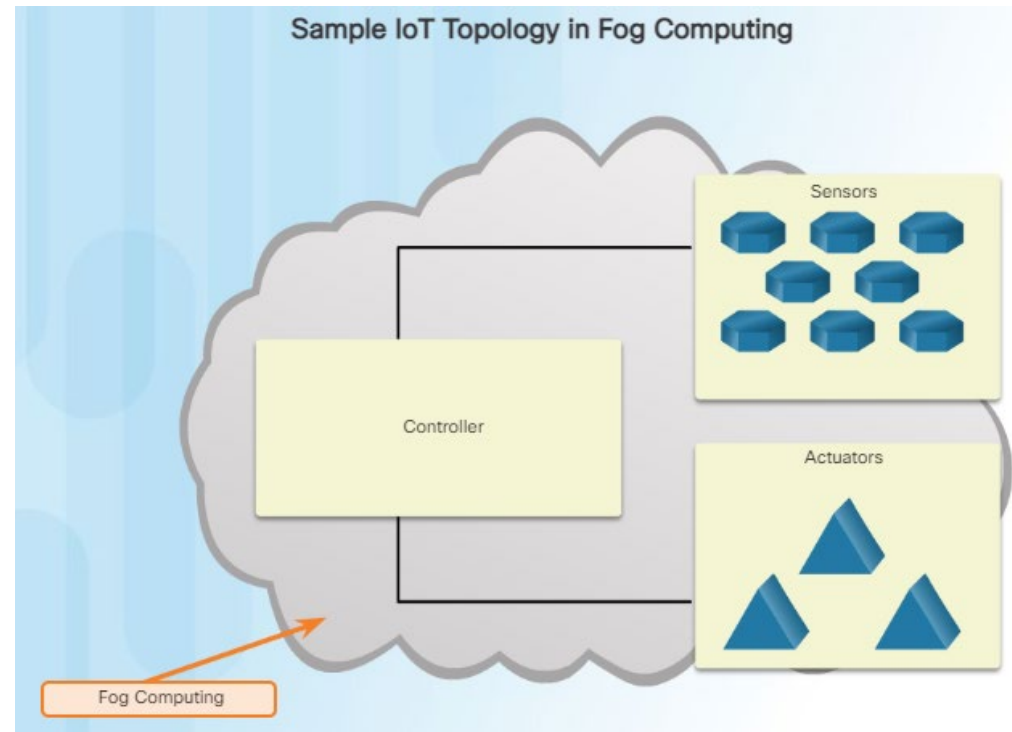

Figure 2
- There are many types of sensors. Figure 2 displays examples of sensors.
- Figure 2 displays a sample IoT topology that highlights how controllers are used in fog computing. Imagine smart traffic lights that contain sensors and actuators. The sensors detect and report traffic activity to the controller. The controller is able to process this data locally and determine optimal traffic patterns. Using this information the controller will send signals to the actuators in the traffic lights to adjust traffic flows. This is an example of machine-to-machine (M2M) communication. In this scenario, the sensors, actuators, and the controller all exist within the fog. That means that the information is not sent beyond the local network of end devices.
- Driving a car is an example of a process. Example inputs include speed, direction, and proximity to other cars. Example actions include accelerating, braking, and steering the car. All of these actions create a system, known as driving. Example outputs would be the correct speed, direction, and proximity to other cars and obstacles, as highlighted in Figure 2.